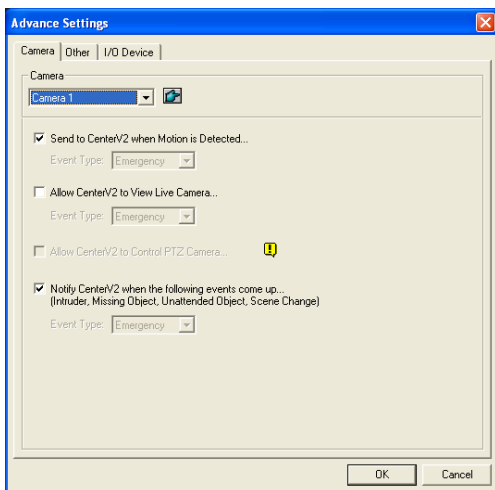

Figure 1-10
1. The GV-System needs to grant the Center V2 the privilege to allow live viewing. On the GV-System, click the **Network** button , select **Connect to Center V2**, click **Configure**, and select **Advanced Settings** and click the **Camera** tab. The Advanced Settings dialog box appears (Figure 1-10).